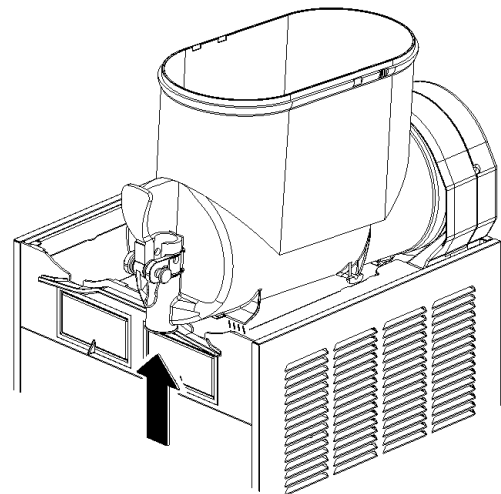
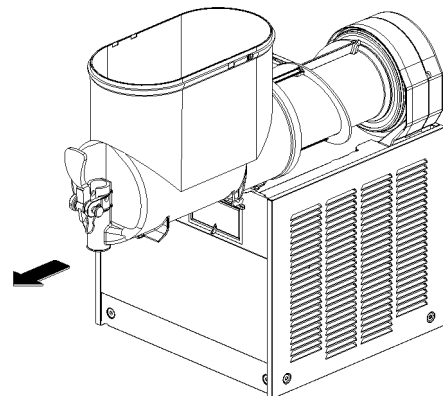

figure 5
figure 6
- 2** Remove the bowl by lifting its faucet side up and off the fastening hooks (see figure 5) and slide it out (see figure 6).